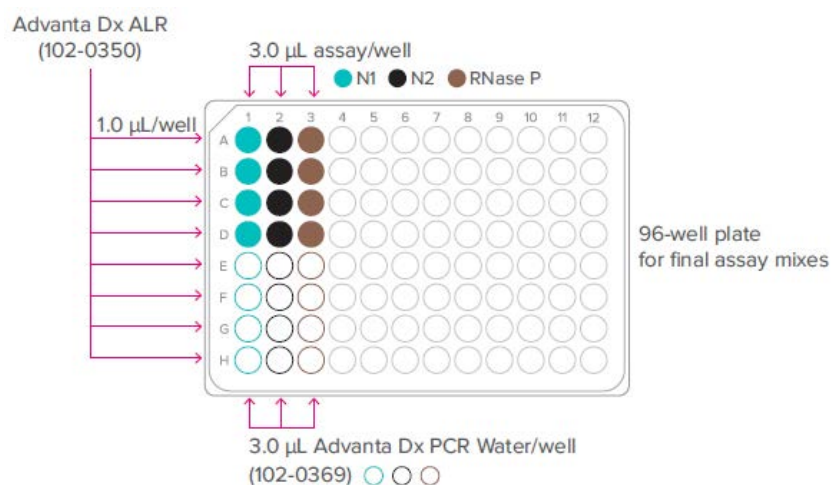

Figure 2. Final assay mixes plate (per-well transfer volumes)
- 2 In a DNA-free hood, prepare the assay mixes as shown in Figure 2.